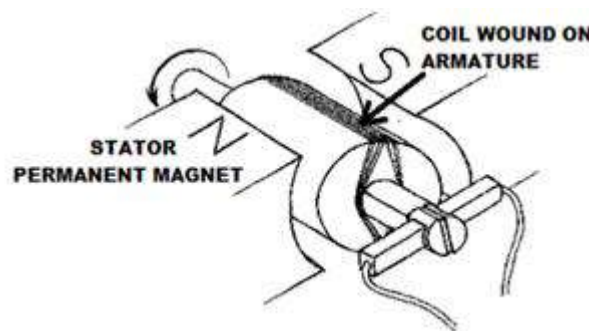

Figure.1.13. Construction of Permanent magnet DC generator.
1.6.1. Permanent Magnet DC Generator. When the flux in the magnetic circuit is created through the use of permanent magnets, then it is known as a Permanent magnet DC generator. The construction of a Permanent Magnet DC generator is shown in the figure1.13.